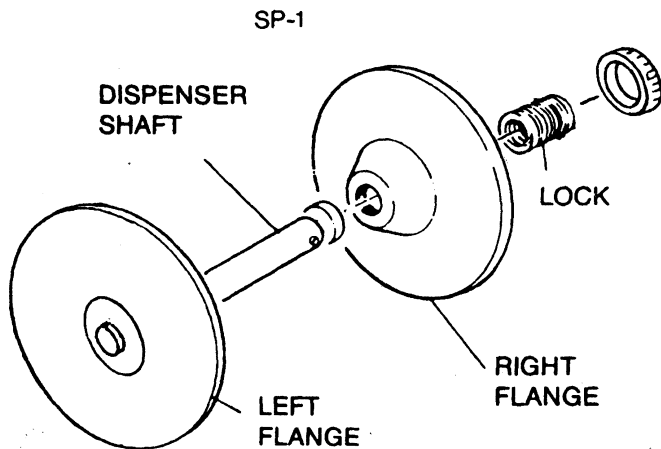

FIGURE 10. DISPENSER ASSEMBLY
Refer to Figure 10 and proceed as follows:
1. Withdraw the dispenser assembly. Place the assembly as shown. (Fig. 10, P. 8)